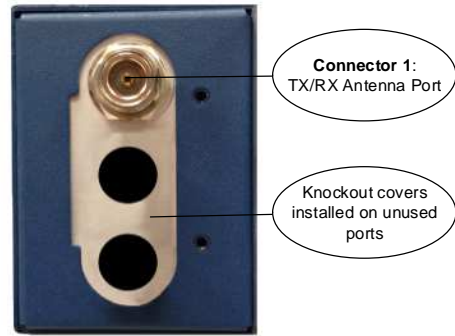
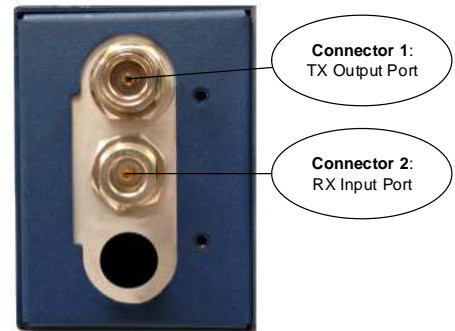
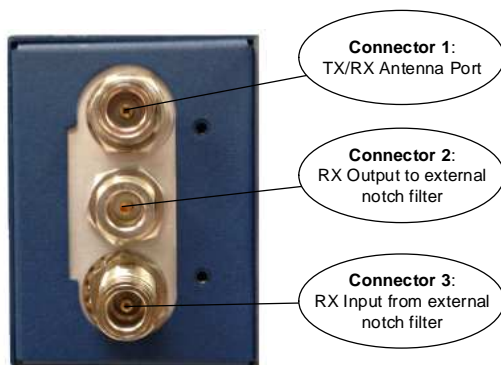

Figure 5: Internal Duplexer (or internal T/R switch), Single N connector
Figure 6: External duplexer or dual antennas (TX and RX ports pass directly through)
Figure 4: Internal Duplexer, Triple N connectors
2. **Connect Antenna Feed-lines.** All coaxial antenna connections are made to the Type-N connectors on the rear of the unit. Figure 4, Figure 5, and Figure 6 illustrate the antenna options available;